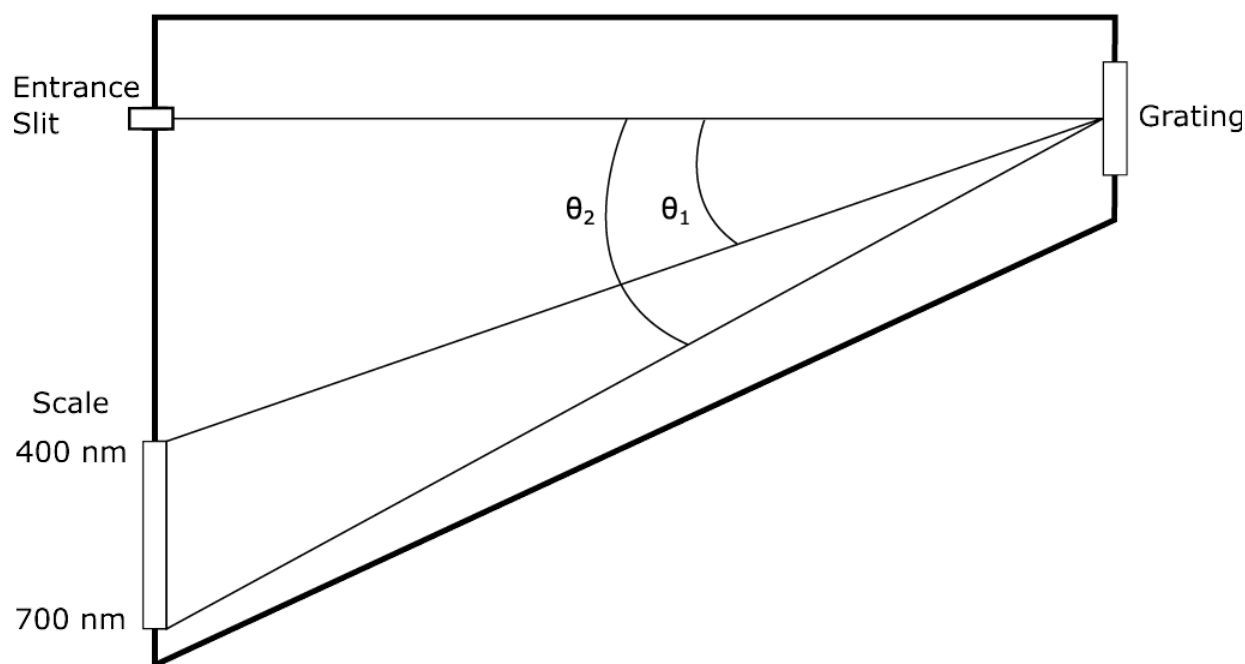

Figure 5.3: Spectrometer Schematic (CC BY-NC-SA;?????)
A schematic of a spectroscope is shown in Figure 5.3 Light enters the spectroscope through a slit and exits through a transmission grating to the eye of the viewer. Since the transmitted light undergoes interference, a virtual image of the slit occurs at an angle θ , dependent on the grating spacing and the wavelength of the light. A scale is attached to the spectroscope that allows the wavelength of the light to be read from the position of the first-order image. The width of the image for monochromatic light depends on the width of the slit. The larger the dimensions of the spectroscope and the smaller the grating spacing, the more accurately the position of the image can be determined for a fixed slit width. Research-grade spectrometers use reflection gratings and photoelectric detection of real images. These instruments can exceed several meters.
- Light with a wavelength of 800 nm is incident on a transmission grating that has 1200 grooves per mm. Calculate the diffraction angle θ (see Figure 5.3) for the first order image.